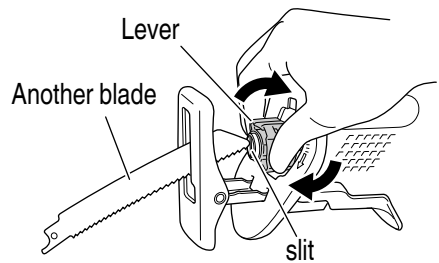

Fig. 6
- (1) If a part of the broken saw blade is sticking out of the small slit of the blade holder, pull out the protruding part and take the blade out.
- (2) If the broken saw blade is hidden inside the small slit, hook the broken blade using a tip of another saw blade and take it out. (**Fig. 6**)